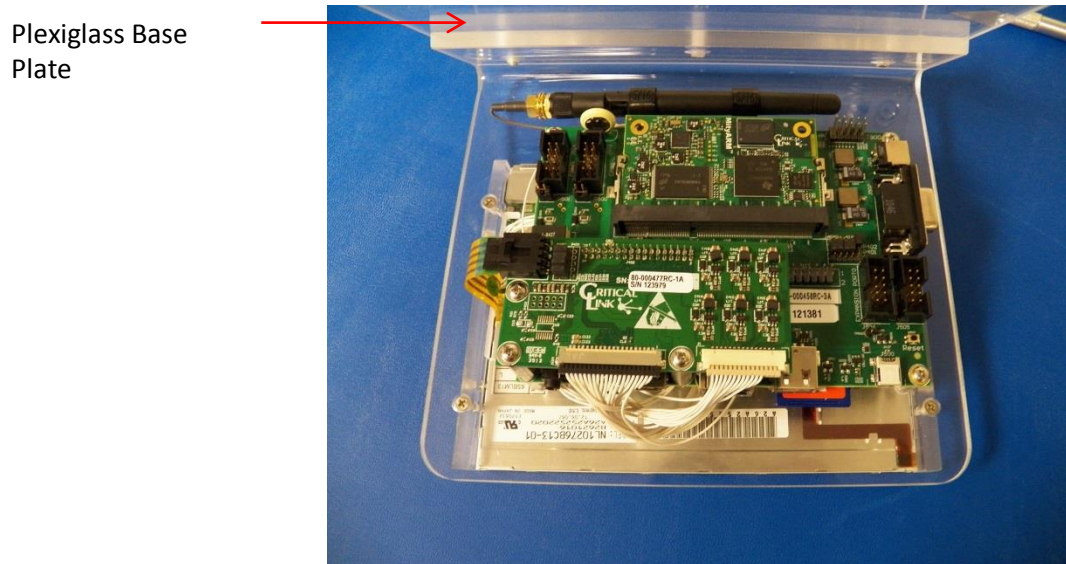

Figure 6: Assembly with the Plexiglass Base Plate
8. Connect the plexiglass Base Plate using three screws pre-installed in the main plexiglass assembly. The assembly is shown in Figure 6.